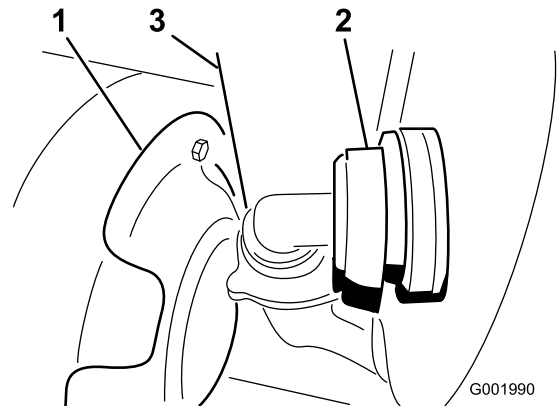

Figure 57
3. Disconnect the hose located on the lower-front face of the tank (Figure 57).
Note: You may need to push the heat shield (Figure 57) back as you remove the cover.
- Connect the hose on the front of the tank (Figure 57).